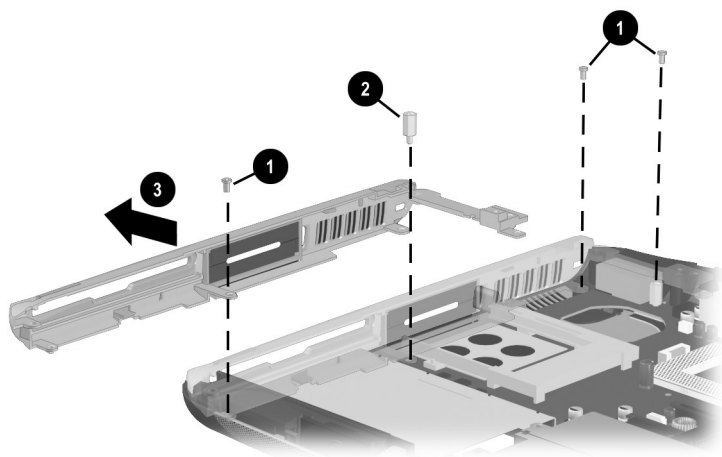

Figure 5-41. Removing the Left Side Panel
2. Remove the following fasteners (Figure 5-41):
- a. Three silver TM2.0 × 5.0 screws ❶
- b. One silver HM5.0 × 13.0 standoff ❷
3. Slide the left side panel to the left to remove it from the base enclosure ❸.